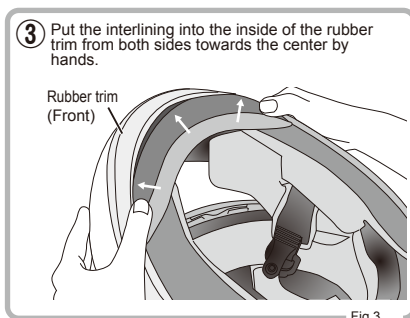

Fig.3
③ As shown in Fig. 3, insert the interlining of the Wind Shutter uniformly into the inside of the rubber trim from both sides towards the centre.